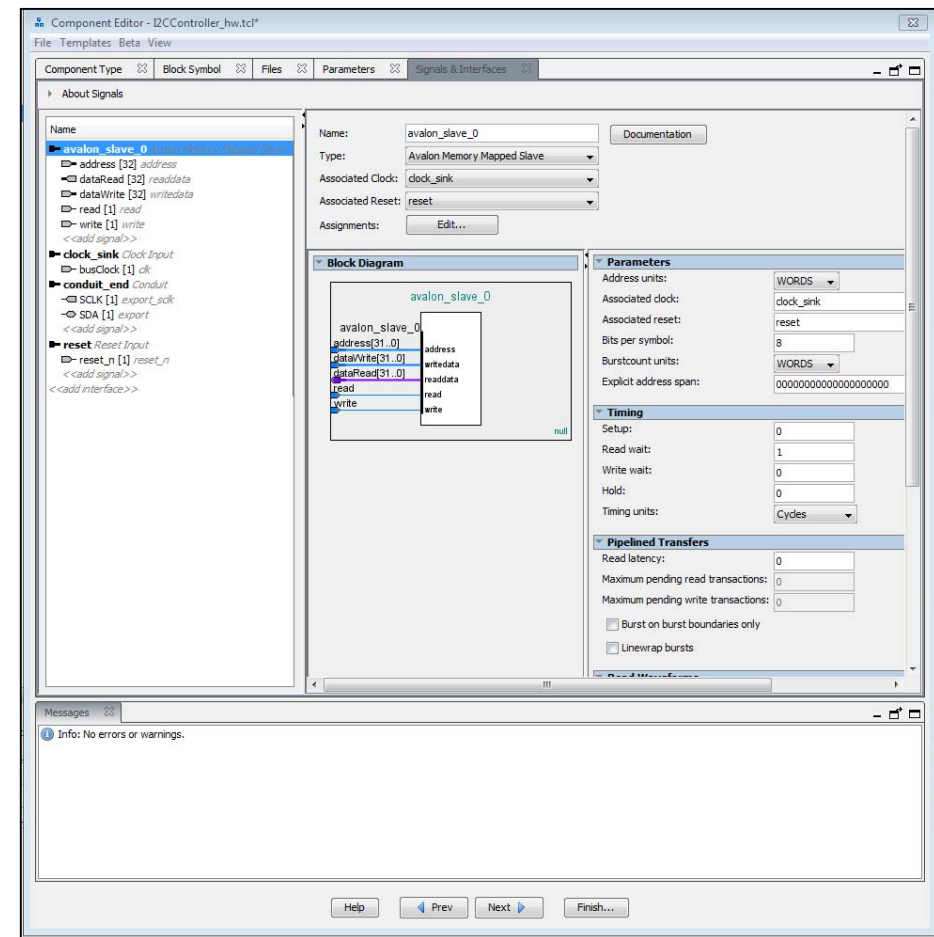

Figure 19 – QSYS Default HPS Configuration
- At the end of the configuration, the 'Signals & Interfaces' tab should appear as in Figure 19.